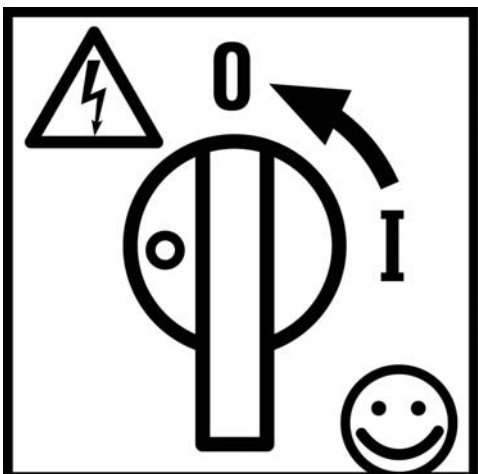

Fig.: 10
- 1 Allow for an external mains switch 1 (fig. 10) in order to be able to switch the system dead at any time.